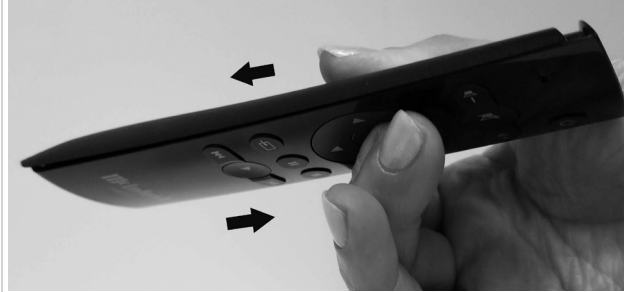

Figure 16– Sliding open the remote
- Pinch the remote with your index finger resting on the Trim/Select button and your thumb on the backside (facing you) opposite your index finger's position. Your thumb and remote should both be pointing away from you (*see Figure 16*).